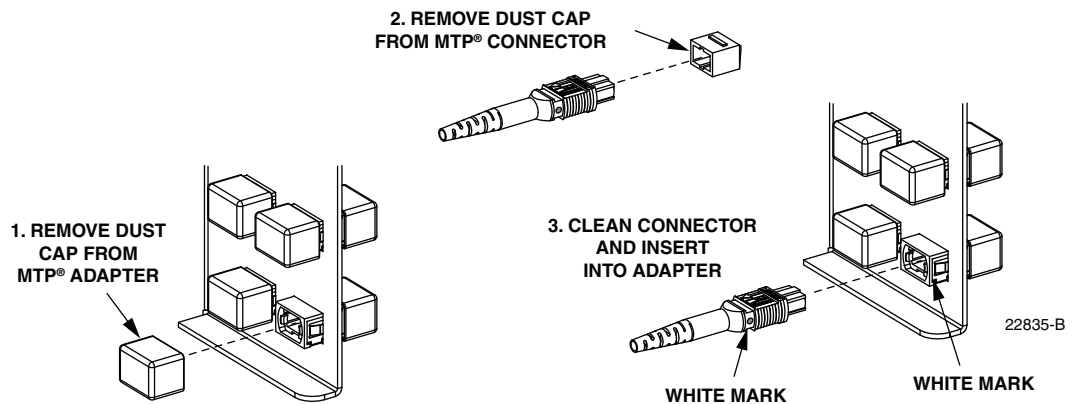

Figure 69. Connecting MTP® Connector to MTP® Adapter
8. Remove the dust caps from the bulkhead adapters and the subunit MTP® connectors as shown in Figure 69.